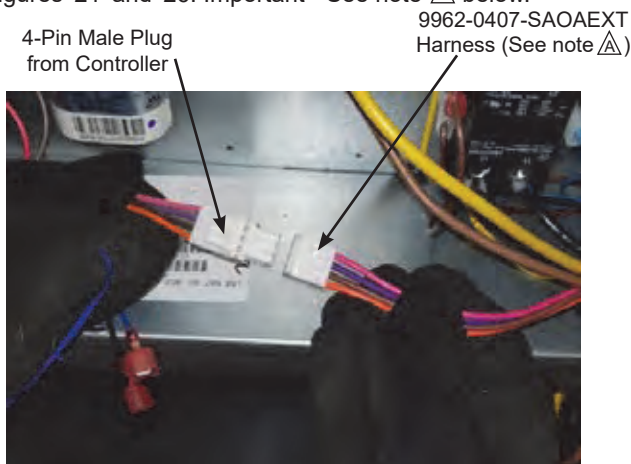

Figure 21 – Connect 9962-0407-SAOAEXT Harness to Harness from Controller (See note )
Step 31: Locate the 9962-0407-SAOAEXT harness (with 4-pin female plug) provided in the economizer hardware kit. Connect the 9962-0407-SAOAEXT harness to the 4-wire harness with a male plug from the Jade controller harness. See Figures 21 and 26. Important - See note  below.